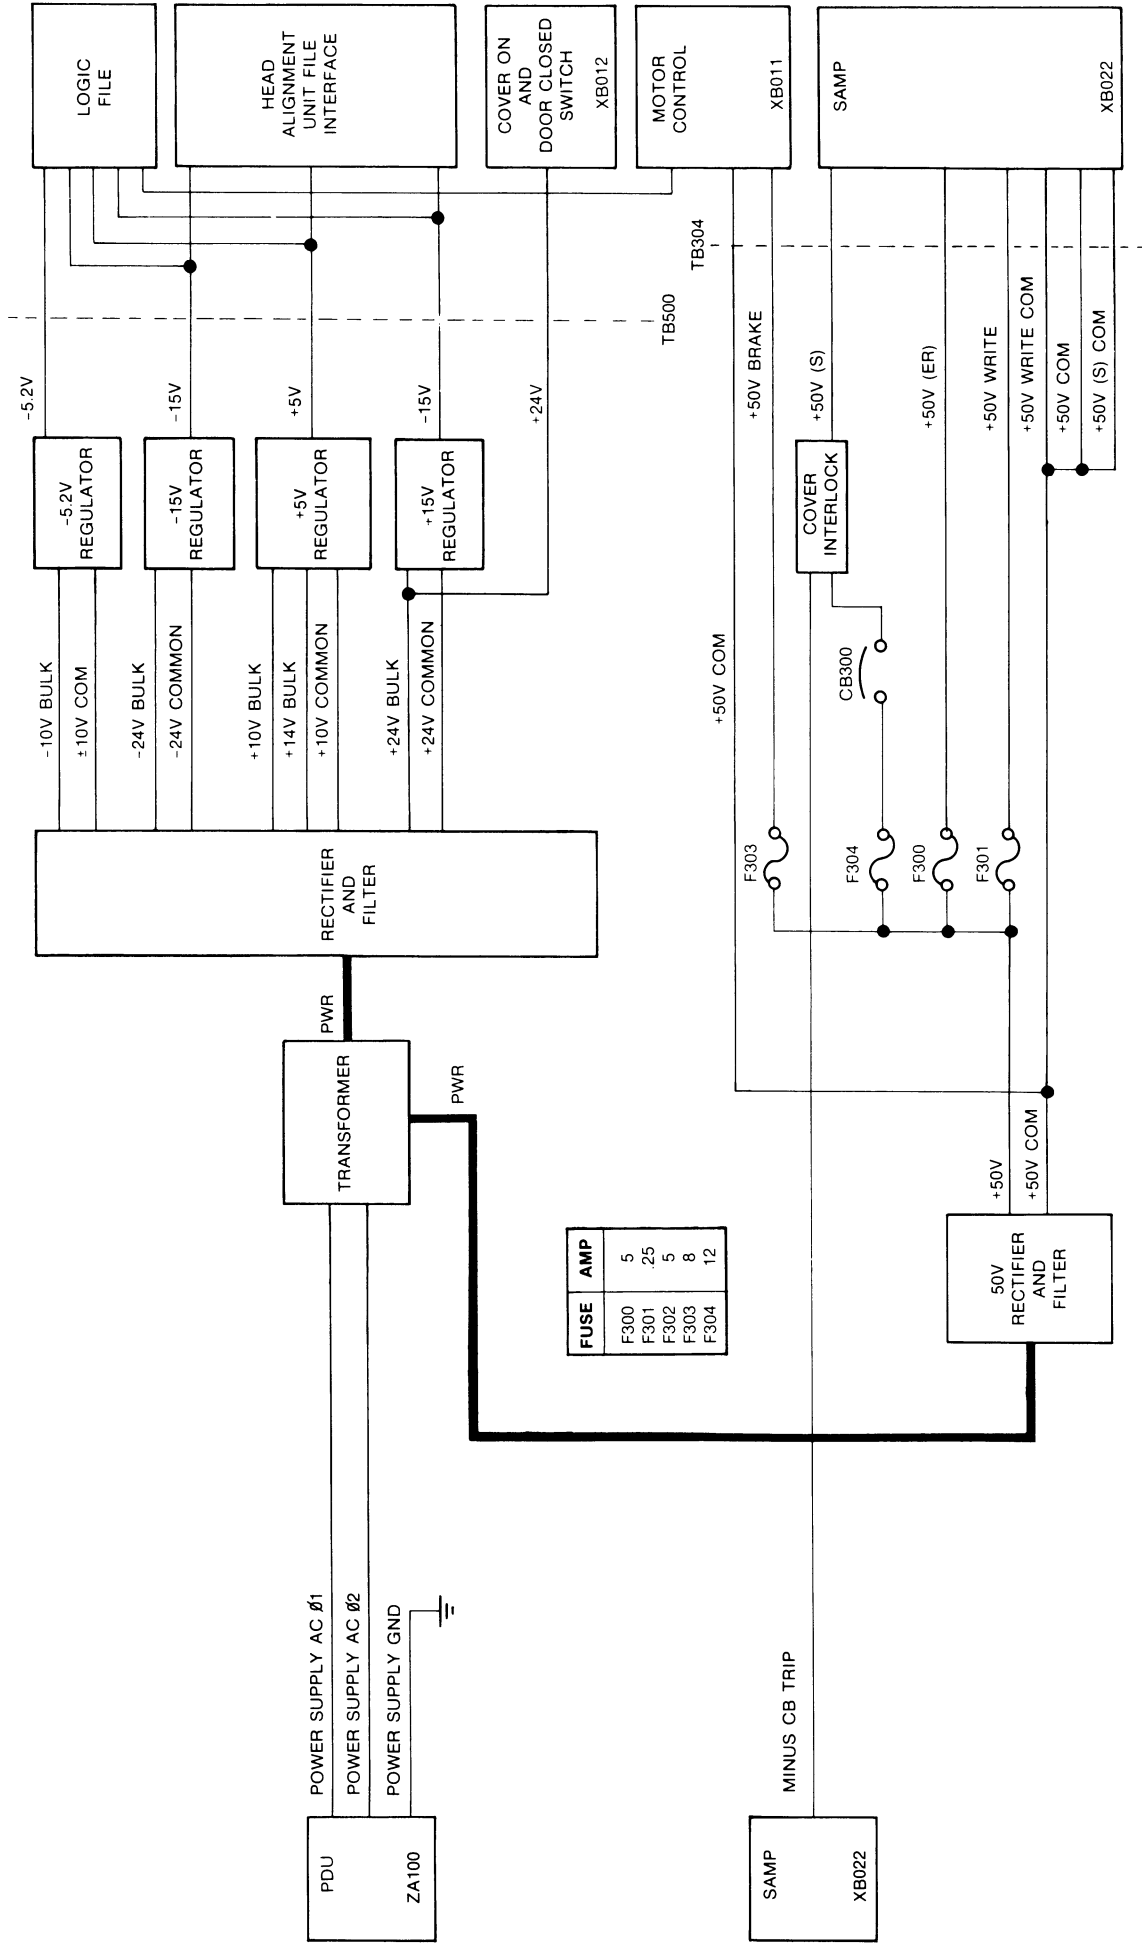

FIGURE 3-80. DC BULK VOLTAGES, VOLTAGE REGULATORS, AND SERVO VOLTAGES
- Referring to Figure 3-80, twice filtered ac power is sent to the power supply Transformer.